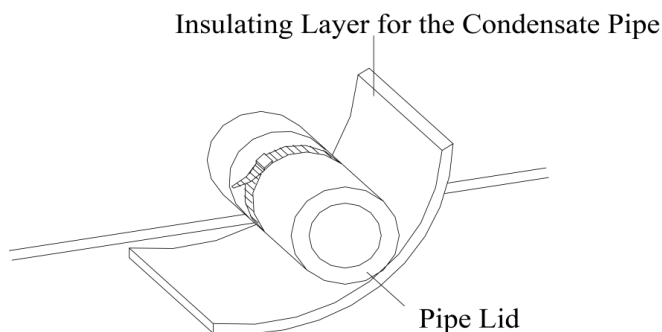

Fig.13 Thermal Insulation of the Condensate Pipe
a. The condensate pipe should keep a inclination angle of $5 \sim 10^\circ$, which can facilitate the drainage of the condensate water. And the joints of the condensate pipe should be insulated by the insulation material to prevent condensing(see Fig.13).